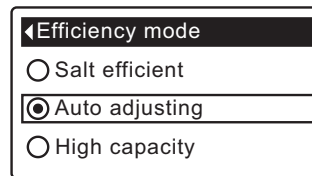

FIG. 74
- 8a. **Efficiency mode:** If the desired efficiency mode already has a black dot next to it (See Figure 74), go to Step 9. Otherwise, press the DOWN ▼ or UP ▲ buttons to scroll to the desired efficiency mode, then press OK/MENU to choose it.